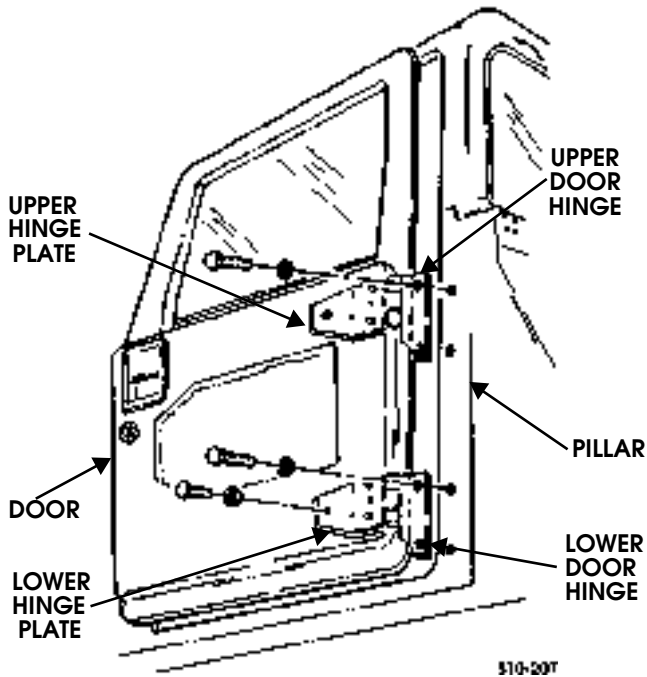

Figure 10-66: Door Hinges
13. Secure upper and lower hinge plates to door with washers and twelve-point screws (Figure 10-66).
1. Secure lower door hinge to pillar with washers and twelve-point screws. Do not tighten screws (Figure 10-66).
1. Loosen twelve-point screws securing upper and lower door hinges to pillar (Figure 10-66).